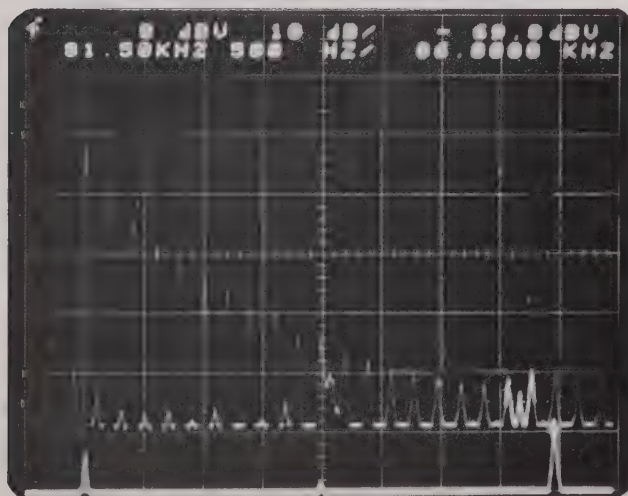

Fig. 4-4 Foreground 81.5 - 86.5 KHz, Background 0 - 100 KHz
- c. Set DISPLAY-BACKGROUND SELECT switch back to 0 - 100 KHz. Now push the DISPLAY-BACKGROUND DISPLACEMENT up. The background will interfere less with the foreground (Fig. 4-4). The $\uparrow$ on the readout indicates the background was displaced upward. Pushing the switch up again will further displace the background.